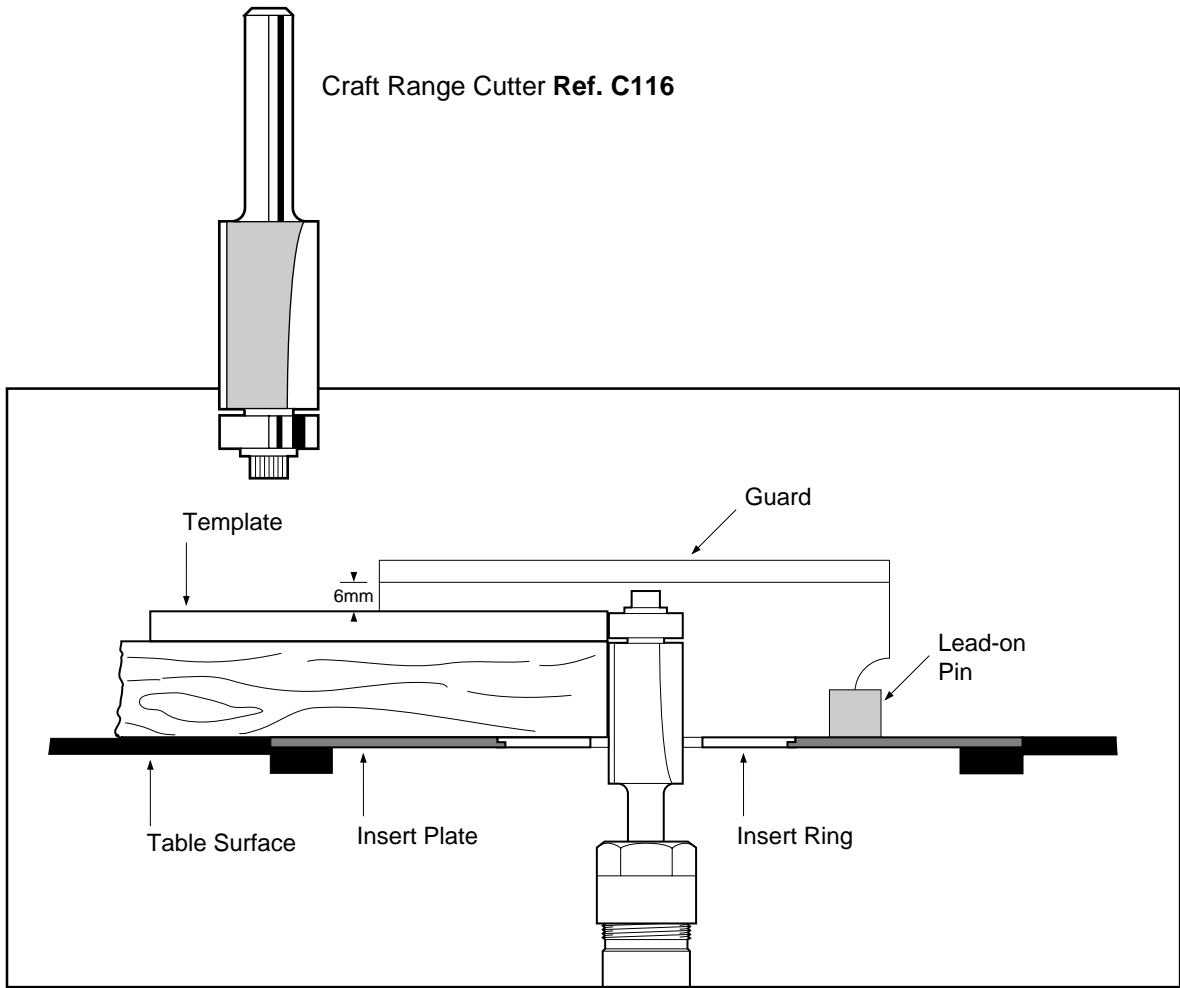

fig. Y.1
8. Lay the workpiece (with template fitted) face down on the table surface. Adjust the height of the cutter using the plunge and lock mechanism on the router or use the fine height adjuster (if fitted). Ensure that the bearing will contact the template and the cutting edge of the cutter will machine the full edge of the workpiece. See fig. Y.1.